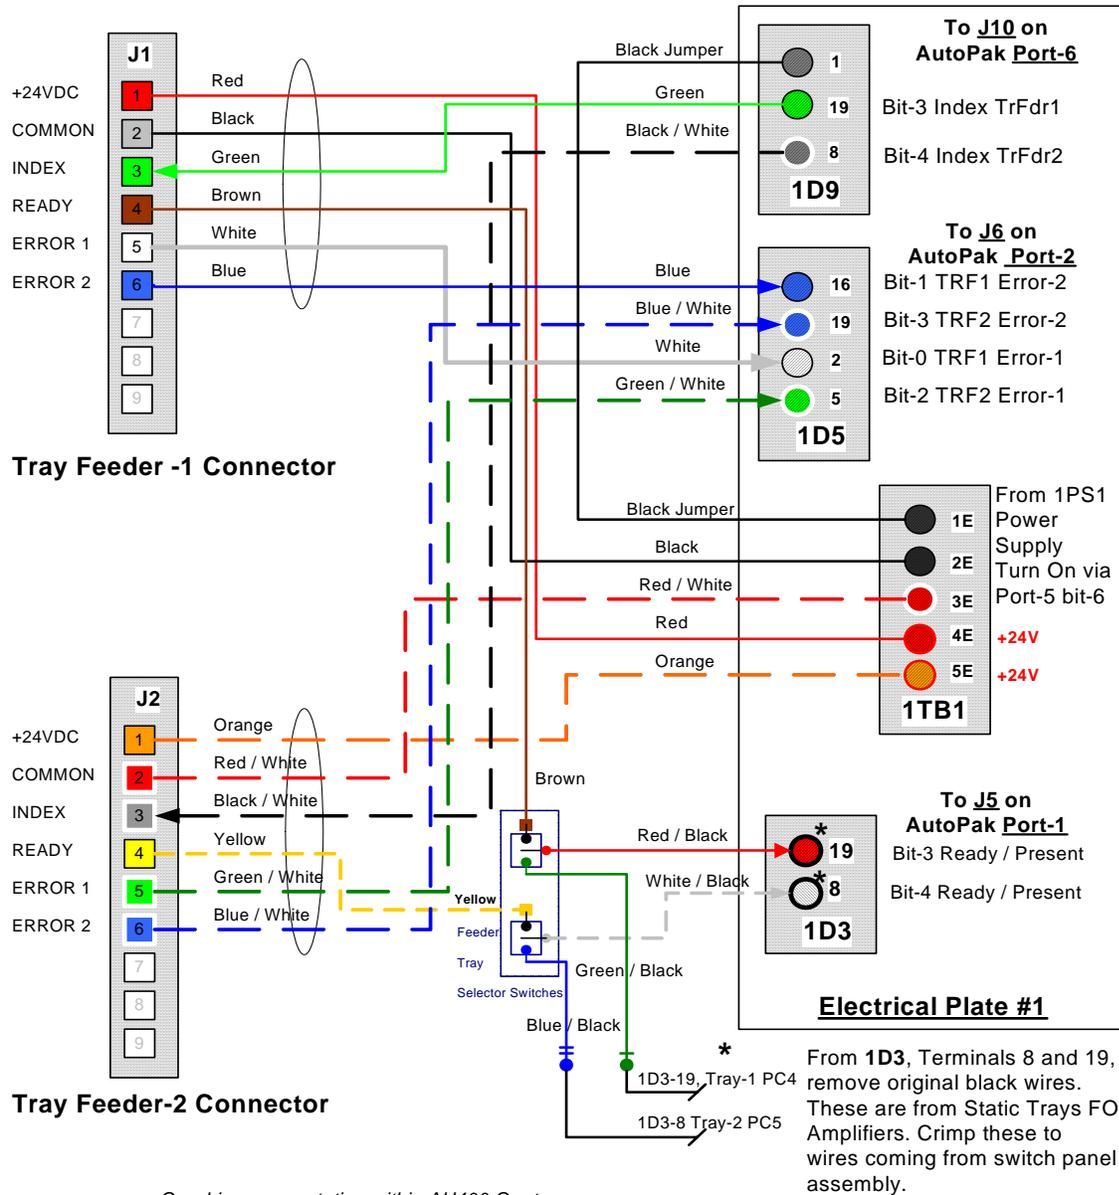

Figure 1-20—Wiring Diagram
- 11d) Terminate all other wires as indicated in Wiring Diagram (Figure 1-20).